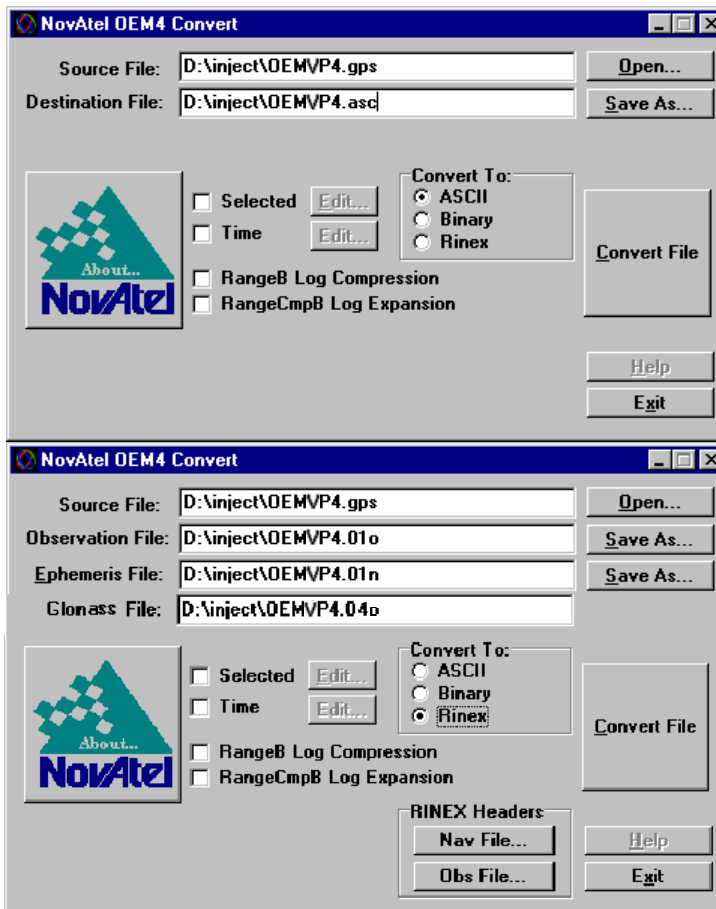

Figure 8: Convert Screen Examples
Convert is a 32-bit Windows application and is shown in *Figure 8*. Convert will accept GPS file formats and convert them to ASCII, Binary or RINEX format. The application also allows the user to screen out particular logs by selecting the desired logs from the list of available logs. This feature is useful for screening particular logs out of large data files in either ASCII or Binary formats.
Selecting the RINEX field, see *Figure 8, Convert Screen Examples on page 54*, in the Convert To section causes the:
- a. Information from this log overrides data entered into the Receiver Number, Type and Version fields using the OBS file button of the RINEX Headers section, see *Figure 8* on *page 54*.